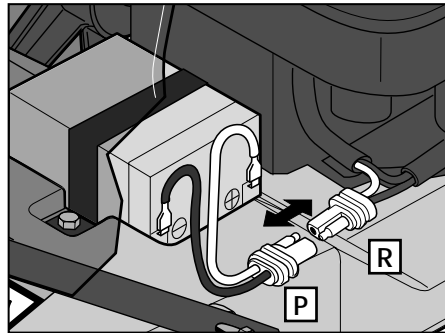

Figure 2-6
1. Firmly connect terminal (P, Figure 2-6) on end of wires leading from battery to receptacle (R) on end of wires leading from wiring harness.